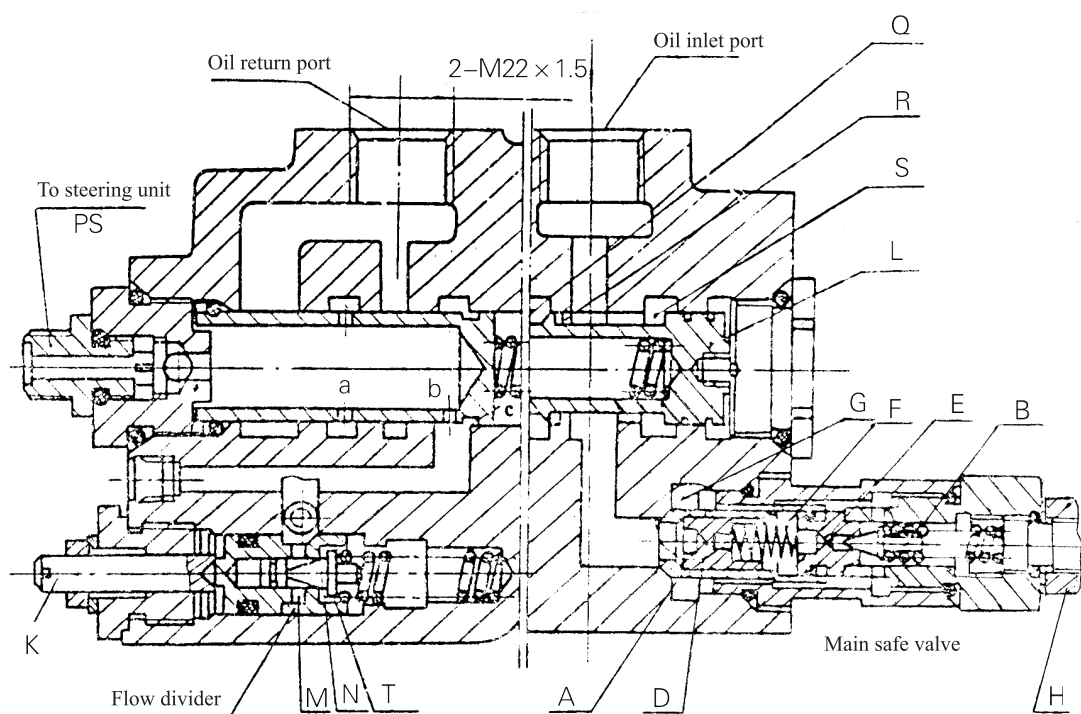

Fig.9-5
9.3.2 Relief valve and flow divider (See Fig.9-5)